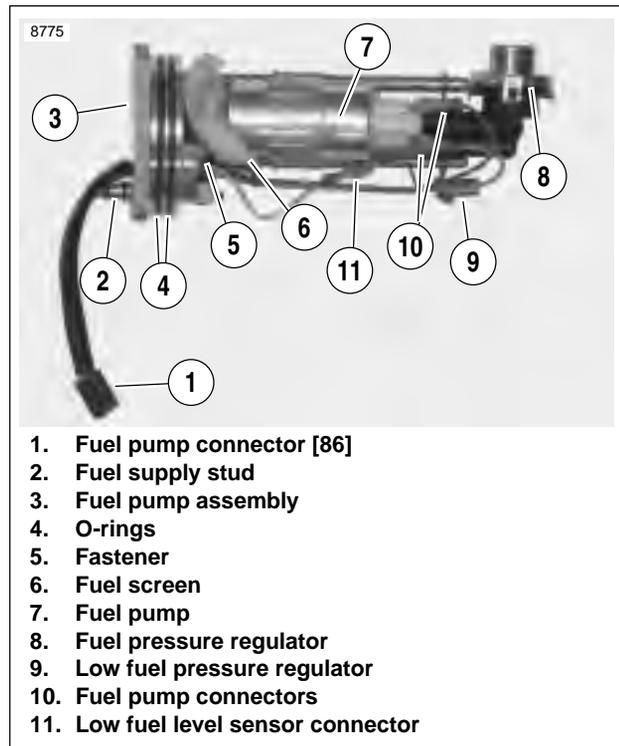
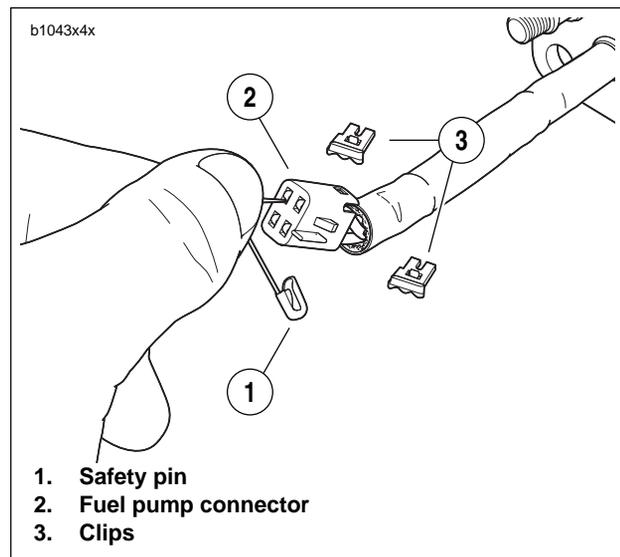

Figure 4-55. Fuel Pump Assembly (left side)
Figure 4-59. Fuel Pump Connector Disassembly
2. See Figure 4-55. Pry four tabs of clip holding fuel pressure regulator (8) in place. Detach regulator from regulator housing.
4. See Figure 4-55. Disconnect fuel pump connectors (10) and low fuel level sensor connector (11).
6. Pry fuel screen (6) from fuel pump (7).
11. See Figure 4-55. Connect low fuel level sensor wiring (11).
12. Connect fuel pump connectors (10). Connectors are two different sizes.
4. See Figure 4-55. Disconnect fuel pump connector (10) and low fuel level sensor connector (11).
- a. See Figure 4-59. Remove connector clips (3).
- b. Insert push pin/safety pin (1), into connector as shown.
8. See Figure 4-55. Remove screw (5).
11. See Figure 4-55. Insert **new** fastener (5), through ground wire terminal and secure to fuel pump assembly. Tighten to 18-22 **in-lbs** (2.0-2.5 Nm).
16. See Figure 4-55. Connect low fuel level sensor connector (11).
17. Connect fuel pump connectors (10). Connectors are two different sizes.
1. See Figure 4-55. Replace o-rings (4). Lubricate **new** o-rings with **clean** engine oil.
2. Install **new** o-rings on fuel supply stud (2). Larger o-ring is located in groove closer to fuel pump.